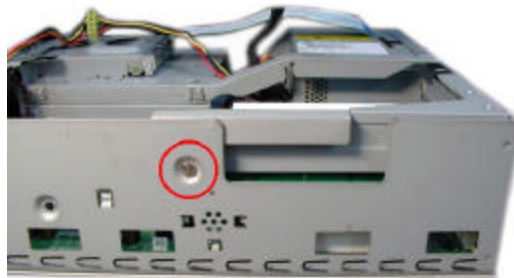

Figure 3.8.1
- i. Undo the screw on the left-hand side of the Sabre unit, as shown in [Figure 3.8.1] below.